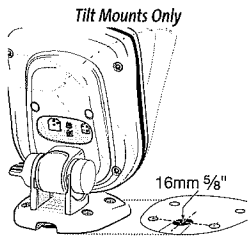

Figure 5A
- 1a. Mark and drill a 3/8" hole centered between the two rear mounting holes as shown in Figure 5A. Route the cables through the hole. The cables will exit through the notch on the base of the Tilt Mount.